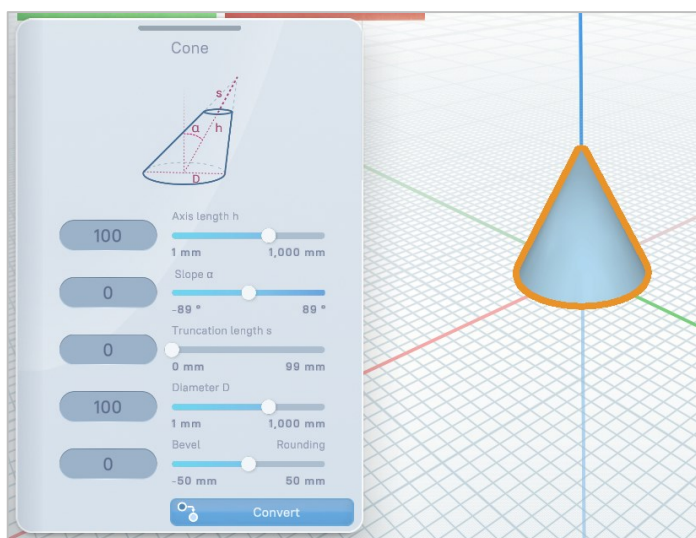
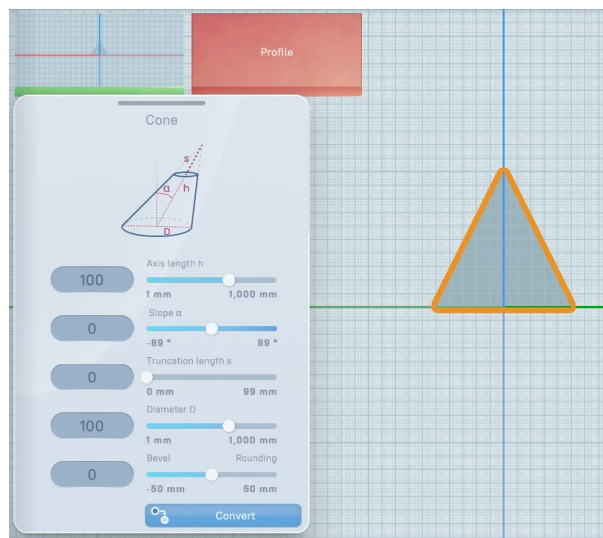
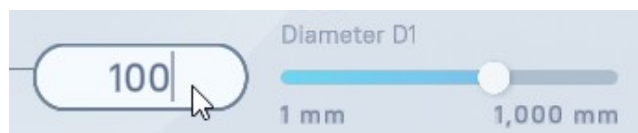

Figure 60 – Parametric shape in edit mode.
Figure 61 – Parametric figure in edit mode.
Figure 64 – Entering a parameter value
- in editing mode (Figure 60, Figure 61). The shape settings panel is shown (see 2.6 Shape settings panel), the **Edit** button in the context menu is active: ;
- 3) On the settings panel (Figure 60, Figure 61) click on the field of the desired parameter. A text cursor for editing the value will appear in the field (Figure 64). Edit the value and confirm the entry by clicking anywhere on the workspace outside the input field.